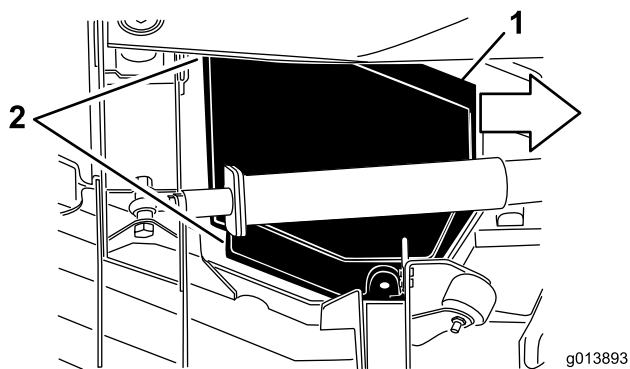

Figure 48
- While lifting the cover, slide it toward the traction unit, approximately 1 inch, to disengage the outer cover edge from the deck (Figure 48).